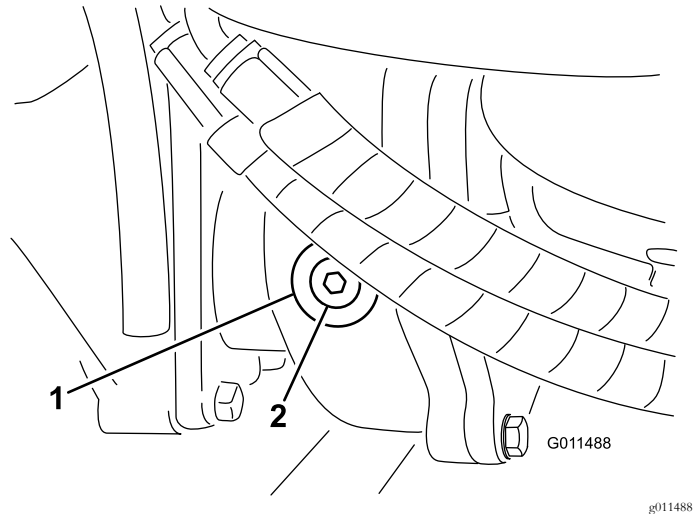

Figure 60
2. Remove the check/fill plug from the left side of the gear box and ensure that lubricant is up to the bottom of the hole (Figure 60).